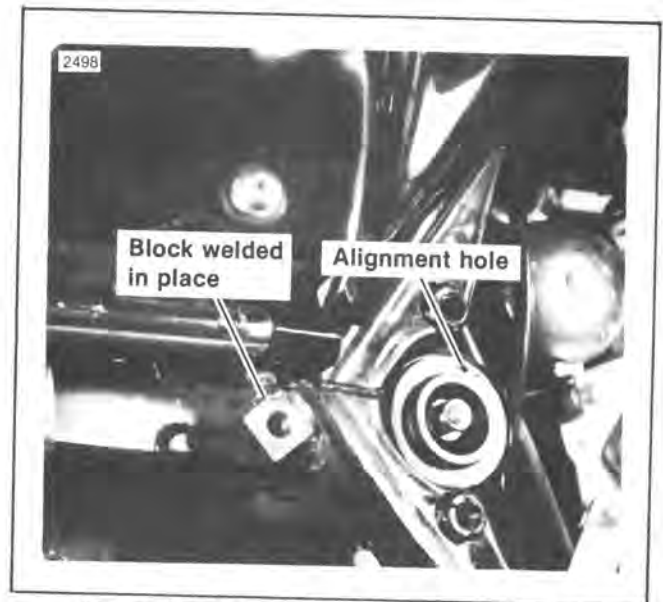

Figure 5-8. Frame Mounting Block Welding
7. Position rear mount assembly (1) so roll pin in rear mount enters alignment hole in rubber mount of pivot shaft (see Figure 5-8) and groove in frame mounting block aligns with frame tube. Remove plug from left passenger footrest bracket and check that the left rubber mount of the pivot shaft did not move out of position.
9. Position frame mounting block (28) so groove in block mates with frame tube and tighten bolt to hold it in position.
18. Weld inner edge of mounting block to frame. It may be necessary to tilt the motorcycle to the right to weld the inner edge of the block. Figure 5-8 shows block welded in place.